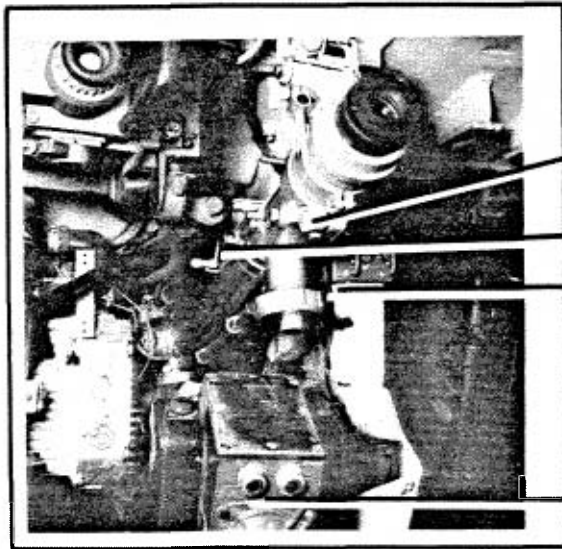
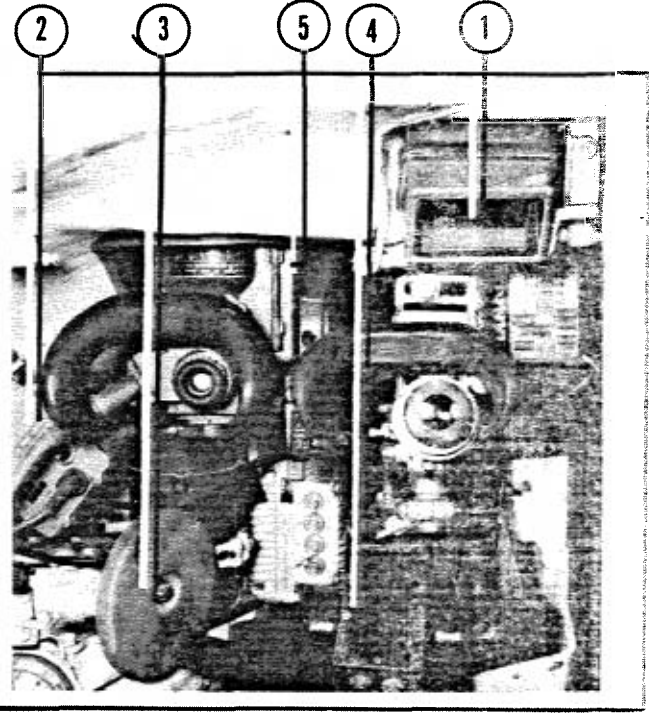

FIG. 3-19. TELESCOPE IN TANK
FIG. 3-20. TELESCOPE AND PERISCOPE
The front of the telescope is mounted on a bracket that is bolted to the gun frame. (Fig. 3-19) The rear of the sight is suspended from the turret roof by a bracket. The headrest can be positioned to accommodate either right eye or left eye use (Figs. 3-20, 3-21).
(2) For night target engagement, the gunner uses the TPNI-41-11 infrared monocular periscope that is mounted to the left of the telescope (Fig. 3-20). The sight is fixed in position but a linkage connects it to the main gun carriage.
The headrest can be positioned for left eye or right eye use. The eyepiece is adjustable for ± 4 diopters (Figs. 3-20, 3-21).
Above the headpiece is a chart that shows the ranges for various types of ammunition at specific points on the reticle (Fig. 3-20, 3-21).